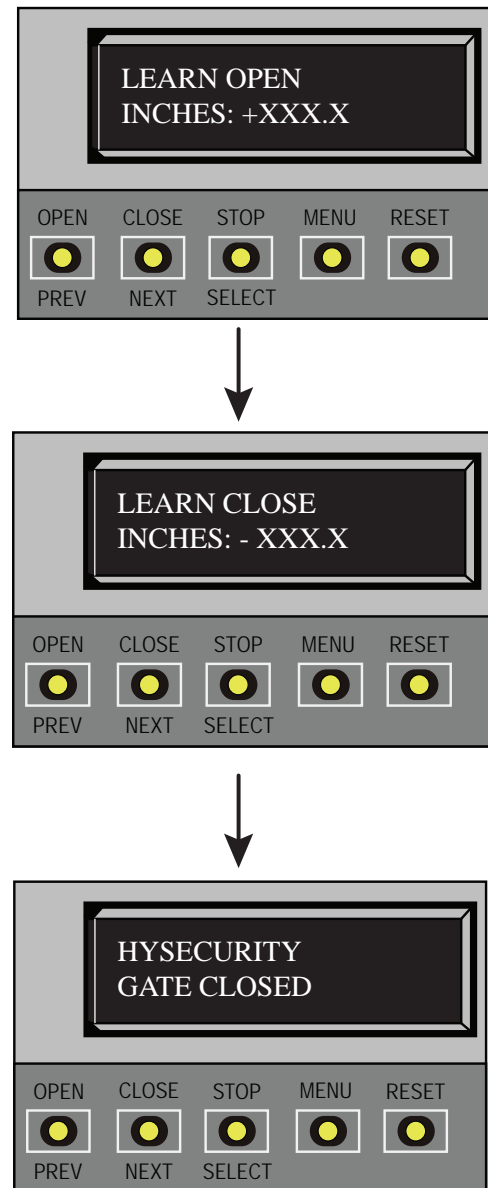

Figure 18. Programming Learn Open
1. With the gate CLOSED, mark the chain link directly across from target sensor that is closest to the trailing edge of the gate. See Figure 18.